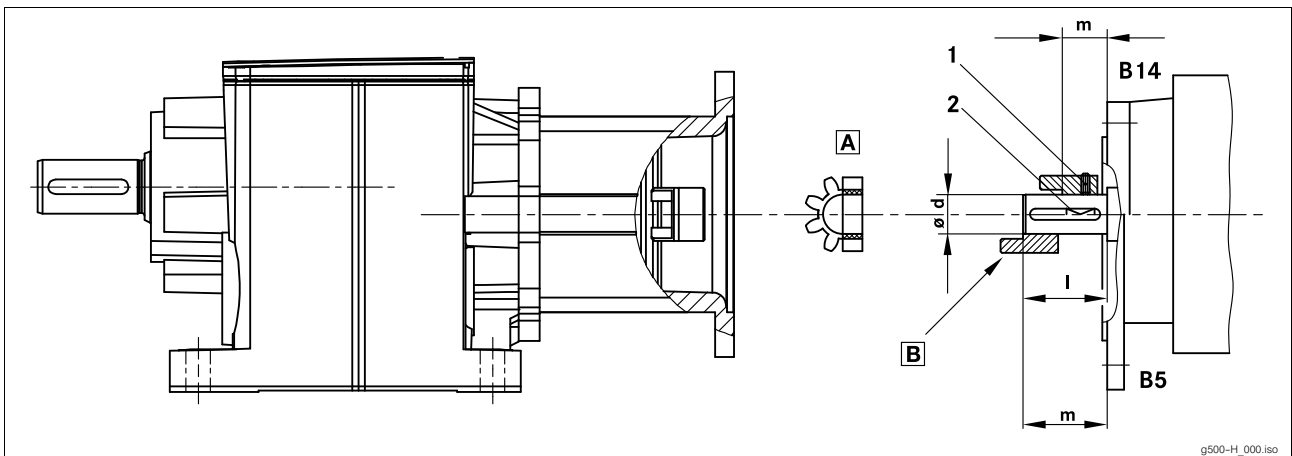

Fig. 7 Input side design N
2. Push the coupling hub over the motor shaft, mounting dimension "m" (see Fig. 7 and Tab. 4) must be observed.